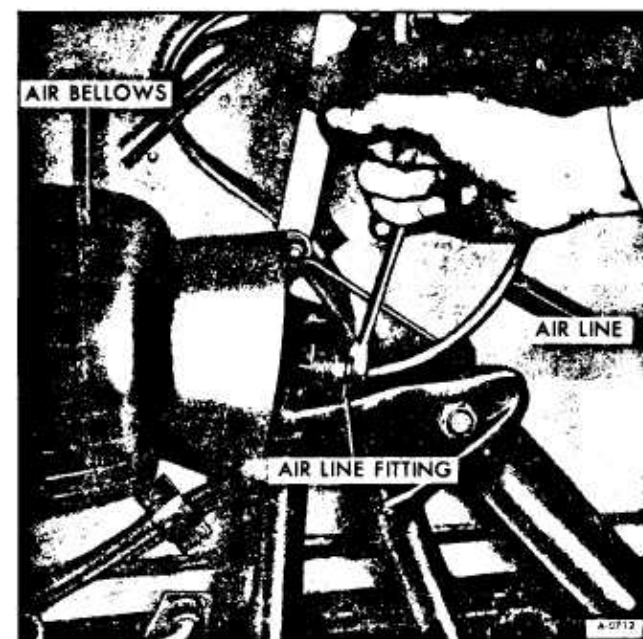

Figure 8—Disconnecting Bellows Air Line
3. Referring to Figure 8, disconnect air line to bellows.
3. Disconnect leveling valve link at control arm. Remove air from bellows by moving valve arm down. Disconnect air line at the bellows as shown in Figure 8.